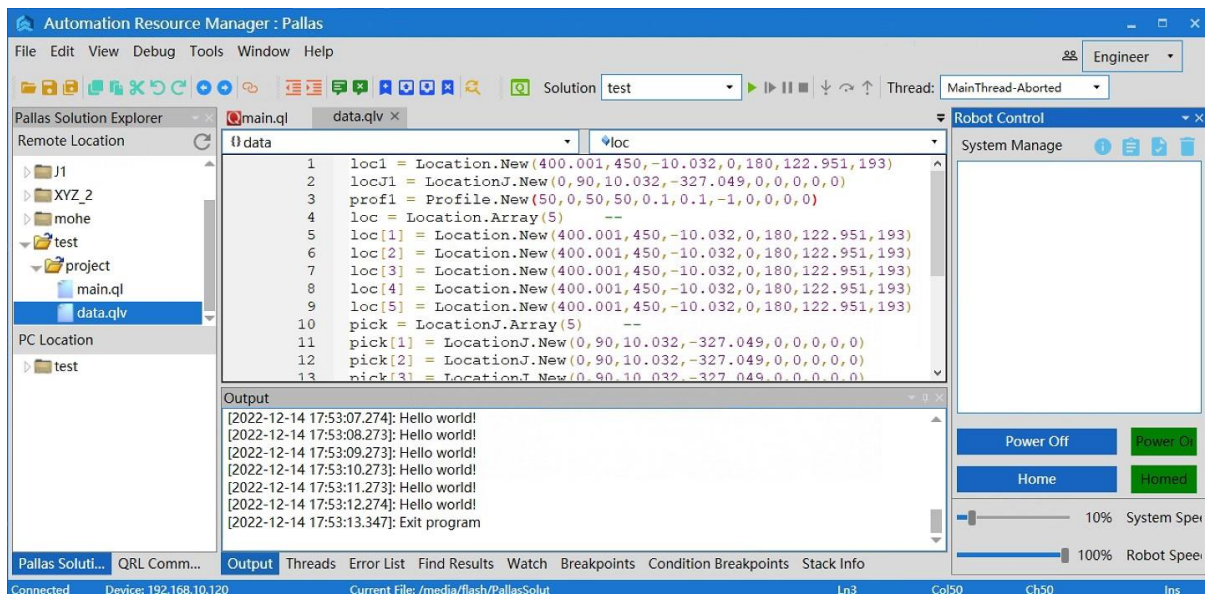

Figure 6-42 "data.qlv" program content
Step 7 Click "IDE Edit", and the program contents of "data.qlv" will appear in the ARM debugging interface, showing the point and motion parameter information added in the above steps, as shown in Figure 6-42.